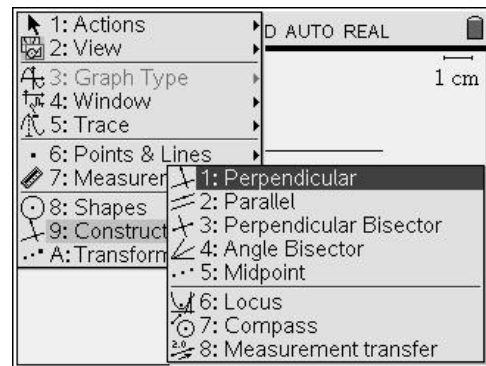

Figure 9
9. Construct the sides of the cylinder using the perpendicular construction tool. Press menu 9 1 for Menu, 9:Construction, 1:Perpendicular. (Figure 9)